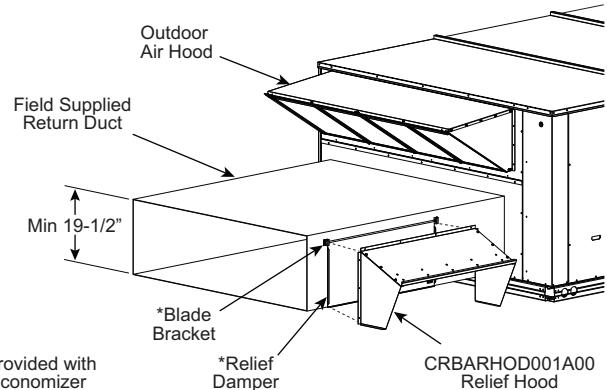

Fig. 35 – Installing CRBARTHOD001A00 Over Relief Damper
4. Using the blade brackets, install the relief damper onto the side of the return duct (see Fig. 35). The two brackets and relief damper are provided with the economizer.
Caulk the backside of the mating flanges to ensure a watertight seal. Install the CRBARTHOD001A00 over the relief damper and screw to the return duct, as illustrated in Fig. 35.